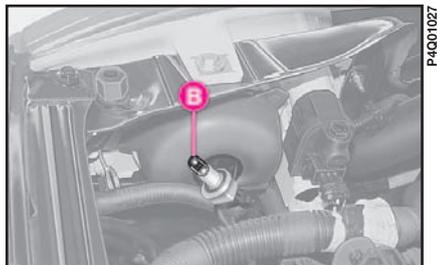

fig. 16
- 2) remove the bulb **B**-fig. 16;